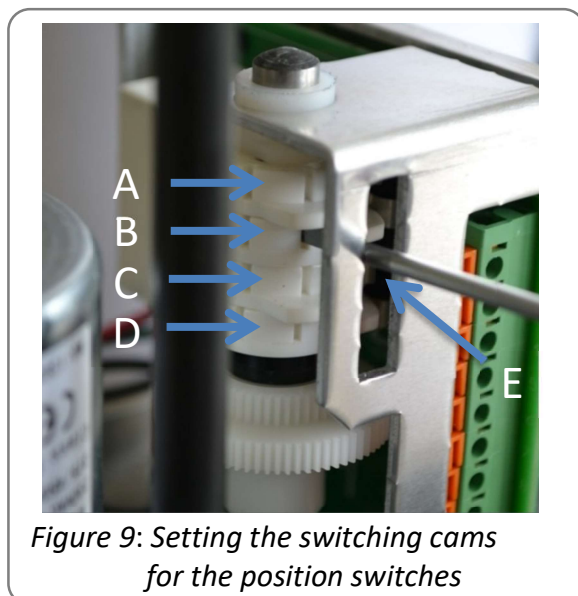

Figure 9: Setting the switching cams for the position switches
- Turn the cam of the CLOSE limit switch (Figure 9, Pos. D) with a suitable screw driver (4 mm blade width) clockwise until you hear the micro switch click.
- Turn the cam of the OPEN limit switch (Figure 9, Pos. C) with a suitable screw driver (4 mm blade width) counter-clockwise until the micro switch is heard to click.
- Turn the cam of the the CLOSE limit switch (Figure 9, Pos. B) with a suitable screw driver (4 mm blade width) clockwise until the micro switch is heard to click.
- Turn the cam of the OPEN limit switch (Figure 9, Pos. A) with a suitable screw driver (4 mm blade width) counter-clockwise until the micro switch is heard to click.